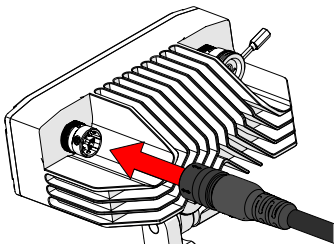

Fig. 29 - Connect the camera cable to the camera
2. Connect the camera cable to the left side receptacle of the camera (Fig. 29).